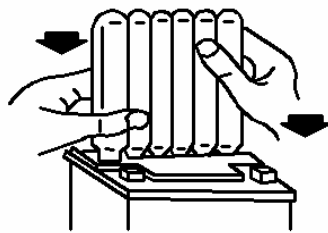

fig.2
2. Line up the neck of the bottle with the battery filling holes (Fig.2)